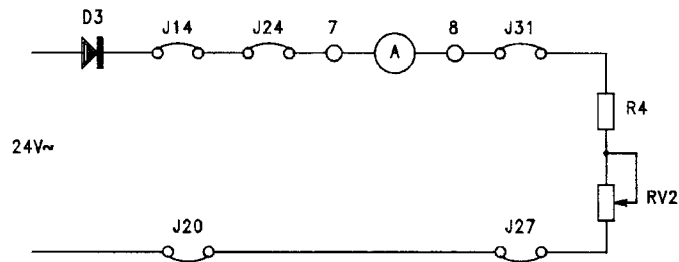

fig. B03.10
- Connect jumpers J14, J24, J31, J27, J20 and the ammeter to produce the circuit of figure B03.10